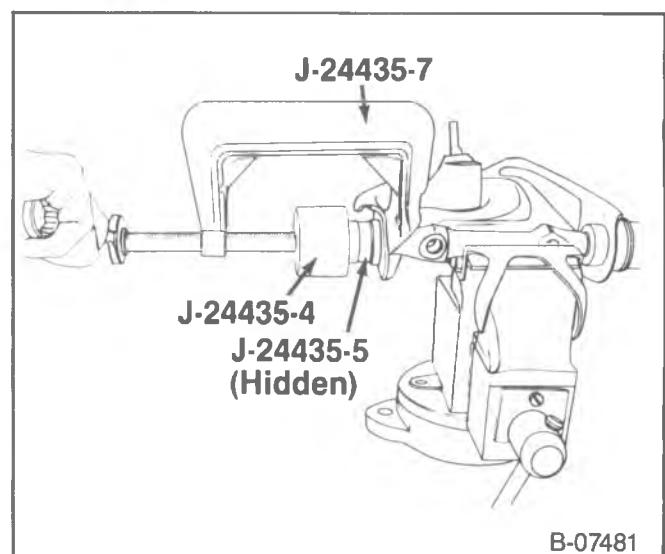

Figure 26—Installing the Lower Control Arm Bushing (G20/2500 w/6.2L Diesel)
1. Bushings (46) and the pivot shaft (50) into the lower control arm (36).
- Use J-24435-4, J-24435-5, and J-24435-7 (figure 26).
- Tighten the clamp (J-24435-7) to install the bushing (26).
- Slide the pivot shaft (50) into the lower control arm (36), then install the other bushing (36).
2. Lower control arm (36).